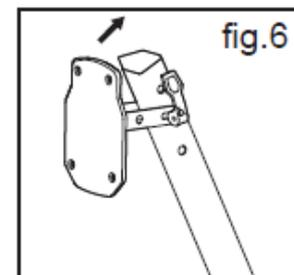

fig.6
4. If required rotate the rear stability foot (18), until it “clicks” into position and secure with the locking lever. (See fig. 6)